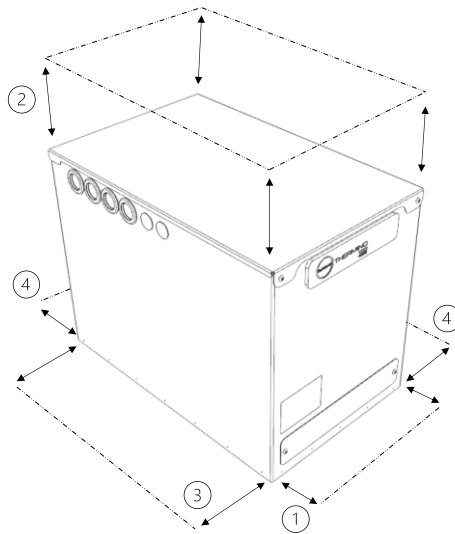

Figure 5 - Thermino Heat Battery Spatial Requirements
- Assess the location where the Heat Battery will be installed, for the spatial & clearance requirements of the Heat Battery (Figure 5, Table 5).